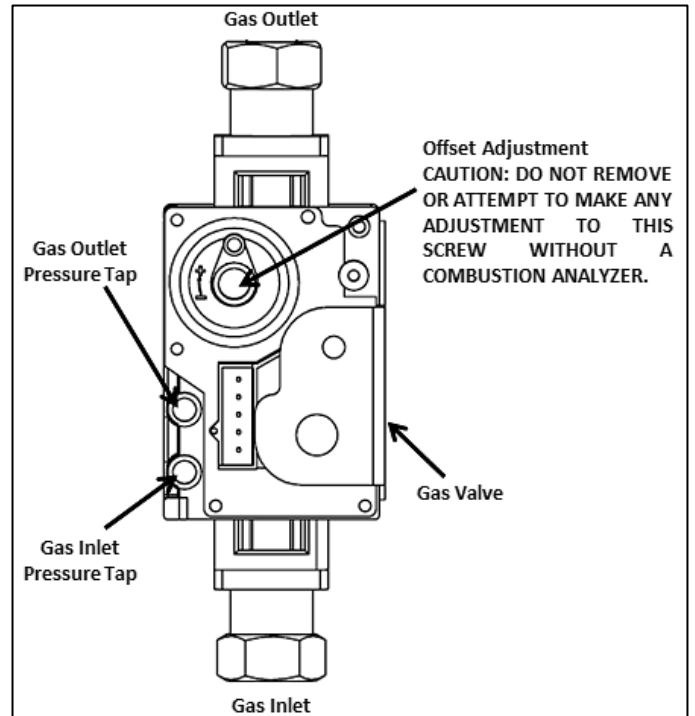

Figure 42 –Gas Valve Detail
NOTE: Refer to Figure 42 when adjusting gas pressure. Loosen the screw before checking the gas inlet pressure.
3. Loosen the gas inlet pressure tap screw three turns with a screwdriver. Connect the manometer to the inlet gas pressure port. See Figure 42.